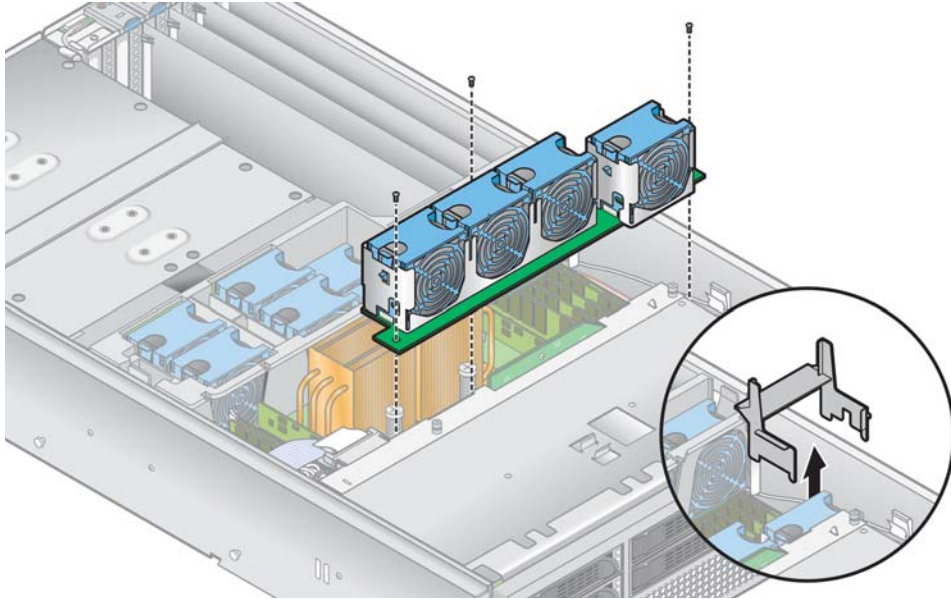

FIGURE 5-21 Removing the Front Fan-Cage Assembly
3. Remove the plastic air baffle from the base of fan 12 (see FIGURE 5-21).
4. Remove the three screws that secure the fan-cage assembly to the motherboard (see FIGURE 5-21).